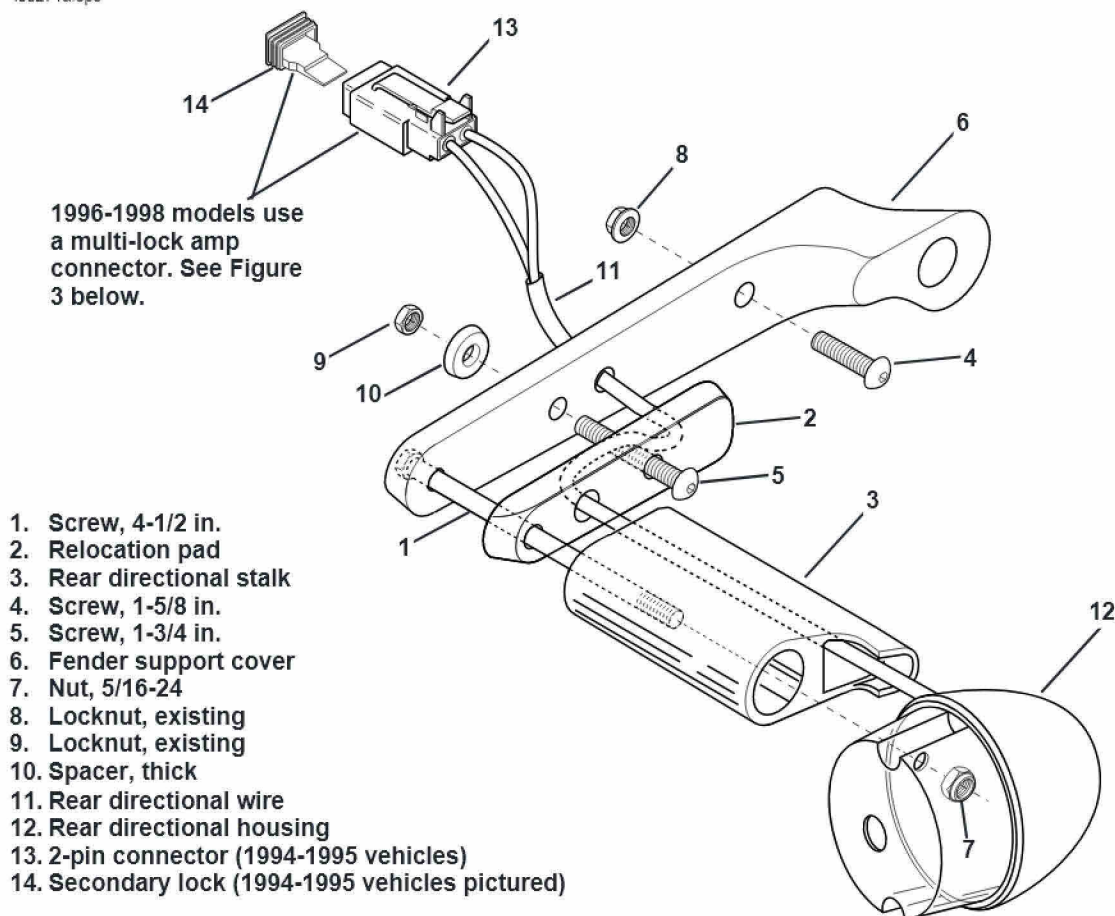

Figure 2. Routing Rear Directional Wires and Installing Relocation Pad
2. See Figure 2. Disconnect directional electrical system by removing connector from T-stud on frame.
1998 vehicles have a 2-place multilock amp connector and 1996-1997 vehicles have an 8-place multilock amp connector. 1994-1995 vehicles have a Deutsch connector (13) as shown in Figure 2.
8. See Figure 2. Using a small piece of tape, tack large spacer (10) from kit onto frame over hole from which rear directional stud was removed.
9. **All Models Except Hugger.** See Figure 2. Locate 4-1/2 in. rear directional bolt (1) from kit. Insert bolt, from inside of fender, out through rearmost hole in fender frame. Leave loosely in place.
- See Figure 2. Install rear directional with relocation pad and fender support cover onto fender using 4-1/2 in. bolt (1) inserted through rear of fender in Step 9. Tighten bolt until snug.
- Install 1-5/8 in. bolt (5) from kit through forwardmost hole of relocation pad (2), fender support cover (6), thick spacer (10) (taped to frame) and fender support. Reinstall using original nut (9) removed in Step 5.
- Reinstall original nut (8) and bolt (4) removed from forwardmost hole in fender support cover (6). Tighten finger tight.